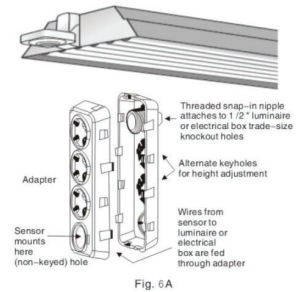

Fig. 6A
1. Position one half of the Adapter body on the end of the luminaire to determine the appropriate mounting hole to be used on the Adapter that will position the sensor for optimum coverage. The bottom of the sensor should be at or below the luminaire body.(refer to Fig.6A)
3. Thread the provided lock nut part way on the keyed threaded nipple and insert through the keyed hole from the inside of the Adapter half body and snap into the half inch hole of the luminaire or electrical box and tighten.(refer to Fig.6A)